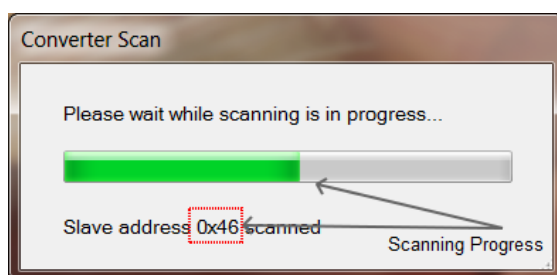

Fig. 4 – Scanning for connected DC-DC Converters
The software will scan for any connected modules. A dialog box will be displayed to show the progress of the scanning (Fig. 4).
- 2) Wait for the GUI to detect all connected converters (see Fig. 4)